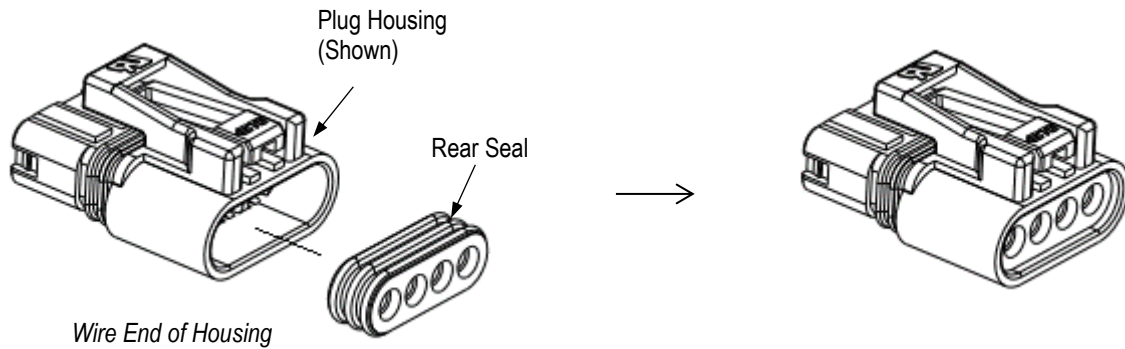

Figure 2
2. Push the rear seal into housing gradually until it fully sits in position. Refer to Figure 2